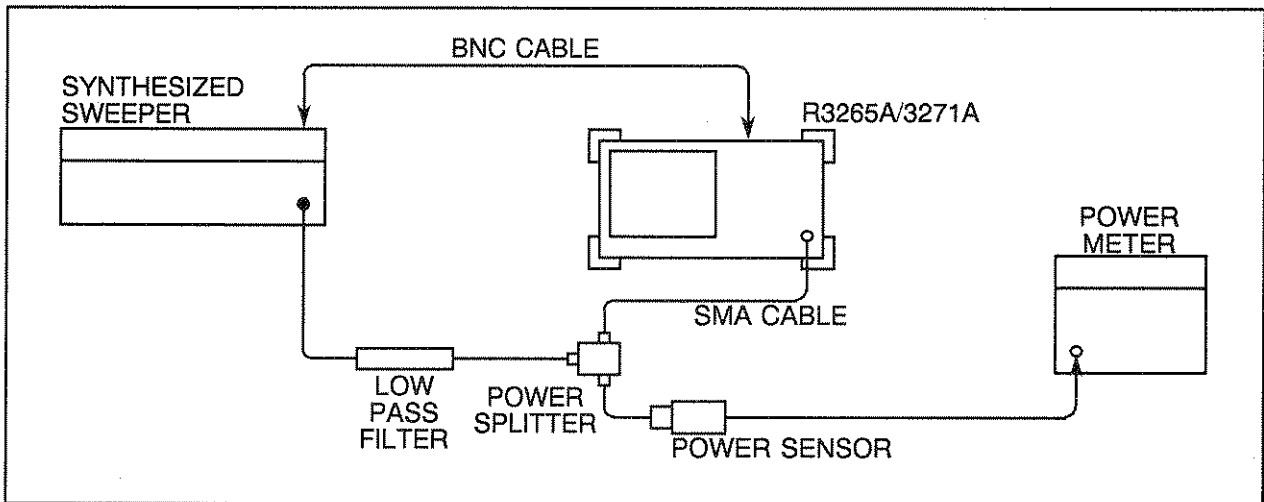

Figure 4-11 Second Harmonic Distortion Test Setup
- (1) Zero and calibrate the power meter. Rotate the CAL FACTOR switch to the power sensor's 1.5 GHz calibration factor.
- (2) Connect the equipment as shown in Figure 4-11.
- (3) Press the INSTR PRESET key on the TR4515. Set the TR4515 controls as follows:
- (13) Connect the equipment as shown in Figure 4-11.
- (14) Rotate the CAL FACTOR switch to the power sensor's 1.9 GHz calibration factor.
- (15) Set the TR4515 key for a 0 dBm \pm 0.1 dB reading on the power meter.